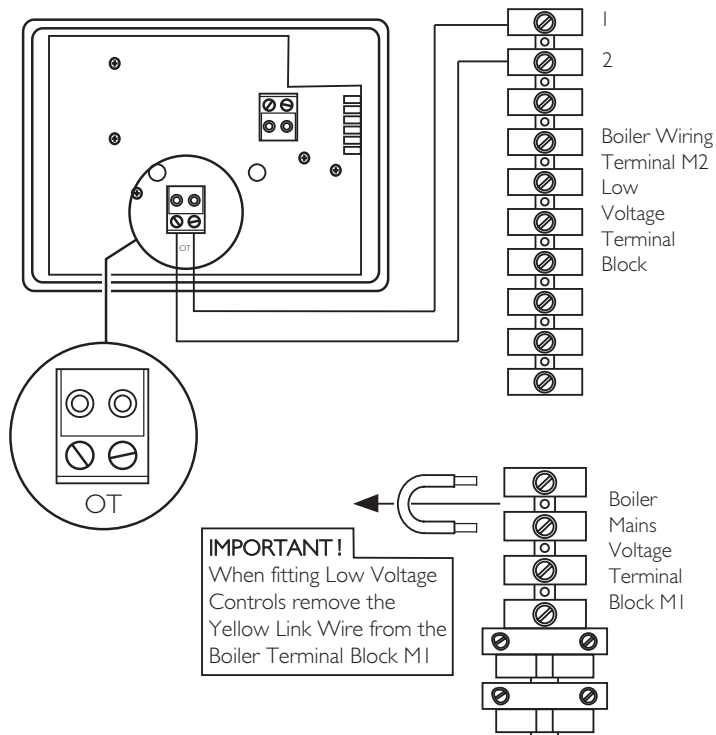

Fig. 9. Receiver Backplate
NOTE: The yellow link wire across terminals 1 & 2 on the Boiler terminal block 'M1' must be removed when fitting this Low Voltage control system. Fig. 9.
1. The Receiver should be wired to the boiler as shown in Fig 9.
5. Connect the wires to the 'OT' connection on the terminal block. Fig. 9. Note this is removable for ease of wiring.
3. Error 83 is due to the Receiver not communicating with the boiler. Check the wiring between the Receiver and boiler. Fig. 9
- The wiring is correct between the Receiver and boiler. Fig. 9